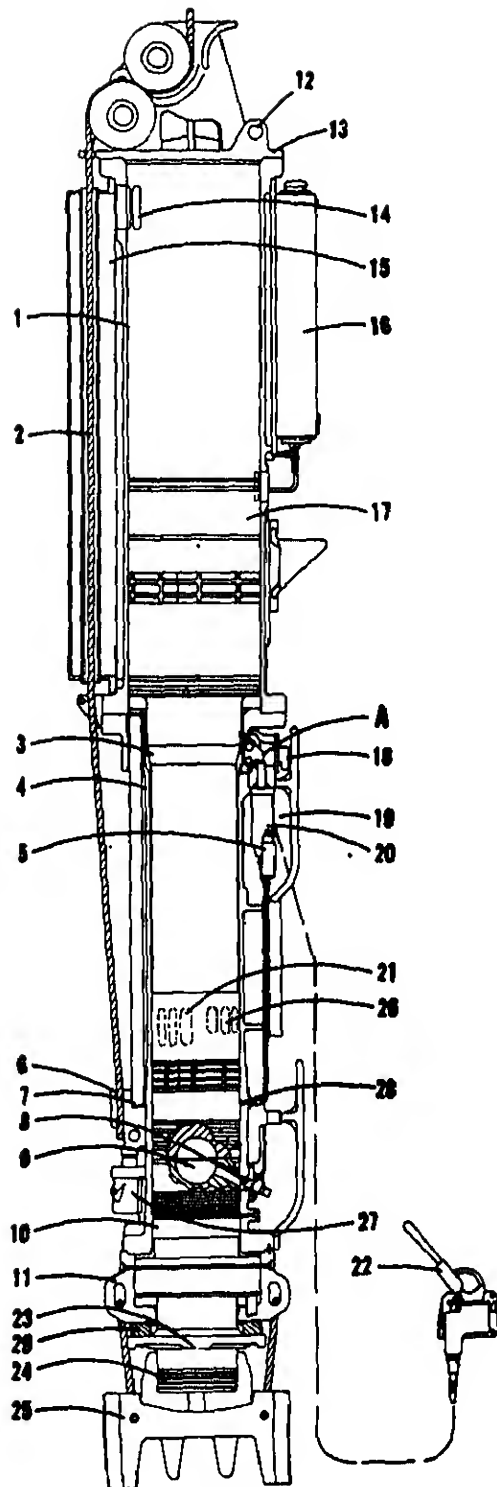

FIG. 9-1
The LINK-BELT SPEEDER Model 440 DIESEL PILE HAMMER is a two cycle compression ignition scavenged engine, with a free piston. The piston, Fig. 9-1, is the "ram" which delivers the work output of the Hammer to the pile, driving the pile down.
Cable adapter assembly and driving head to anvil retainer. (Refer to Fig. 9-1). When stacking components of the recoil dampener adapter assembly, thread eye bolt into cushion adapter cap to make crane lift.
A relatively large bounce chamber tank, Fig. 9-1, is located outside the upper cylinder and is connected to the cylinder by ports. This tank stores the air compressed by the ram which results in nearly double the number of blows per minute from the Hammer.
- (1) BOUNCE VENT COVER
- (2) INTAKE-EXHAUST COVERS
- (e) Insert small diameter end of priming lever in bell crank at point "A" Fig. 9-1.